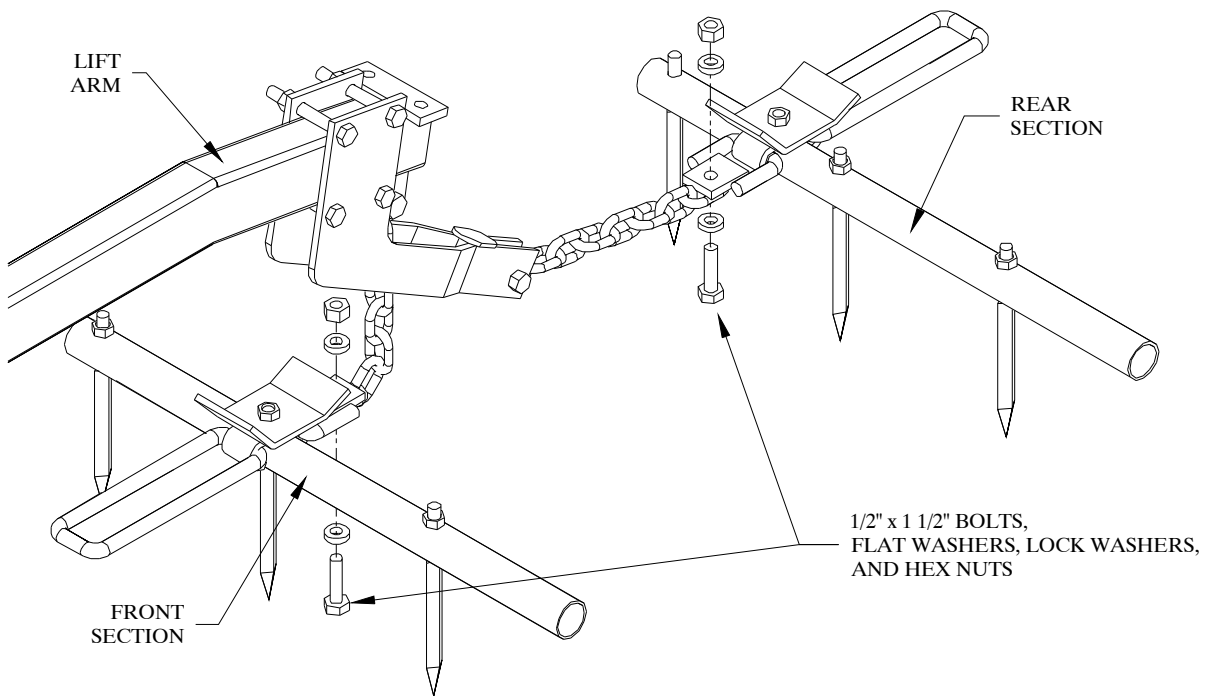

Figure 19
2. Bolt the lift chains to the bottom of the rear lift tabs of the front harrow sections. Refer to Figure 19. Use 1/2" x 1 1/2" bolts, flat washers, lock washers, and hex nuts.